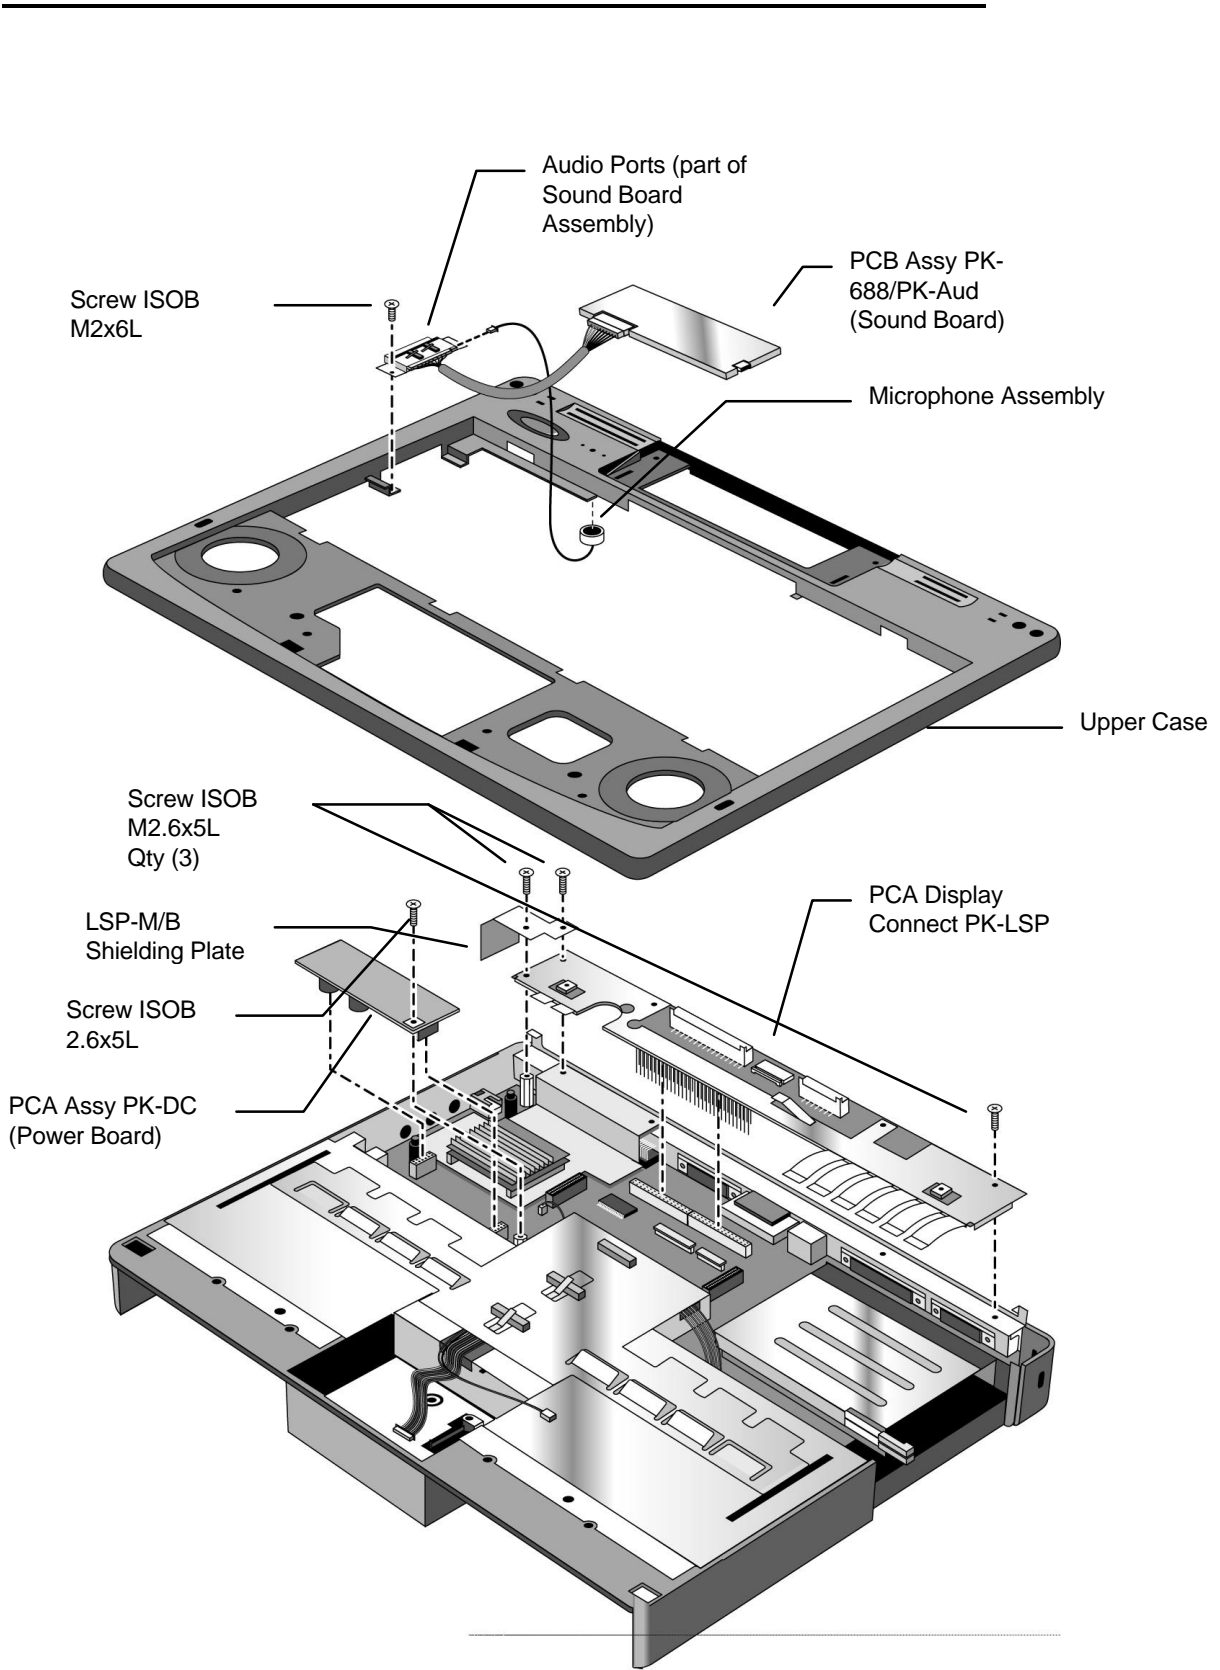

Figure 10 - Upper Case and Display Connect
4. Remove the Power Board by gently rocking back and forth. See Figure 10 for component location.
5. Remove the ISOB M2x6L Screw located on the left side of the Upper Case. See Figure 10 for location of this component.
7. At this point, the Upper Case will still have the Sound Board and the Microphone Assembly attached. The Microphone can simply be disconnected from the Sound Board if necessary. The Sound Board may be affixed with a drop of glue to the Upper Case where the Audio Ports meet the plastic. The Audio Ports can be gently pried from the Upper Case plastic if necessary (see Figure 10). Note, that the Sound Board and Audio Ports are a single assembly.
8. Next, remove the three (3) ISOB M2.6x5L screws from the LSP-M/B Shielding Plate and PCA Display Connect PK-LSP. See Figure 10 for locations of these components.